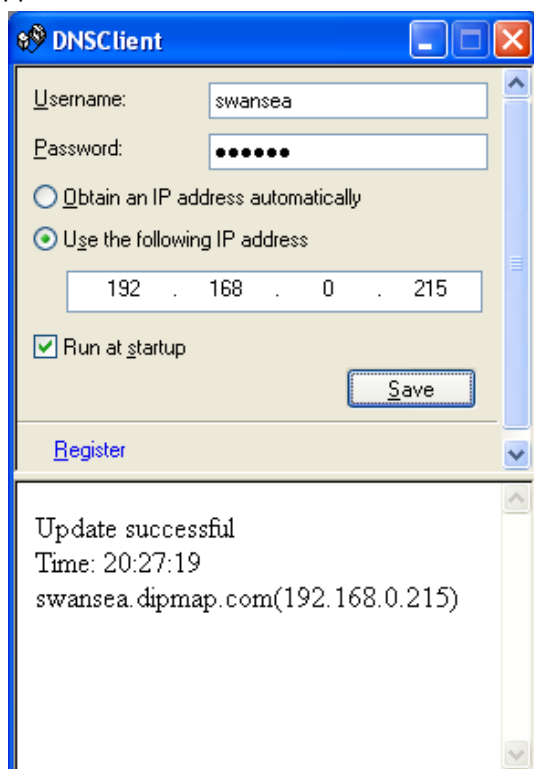

Figure 11-3
1. Go to Windows **Start**, point to **Programs**, select **DDNS**, and then run **Dynamic DNS Service**. The DNS Client dialog box (Figure 11-3) appears.